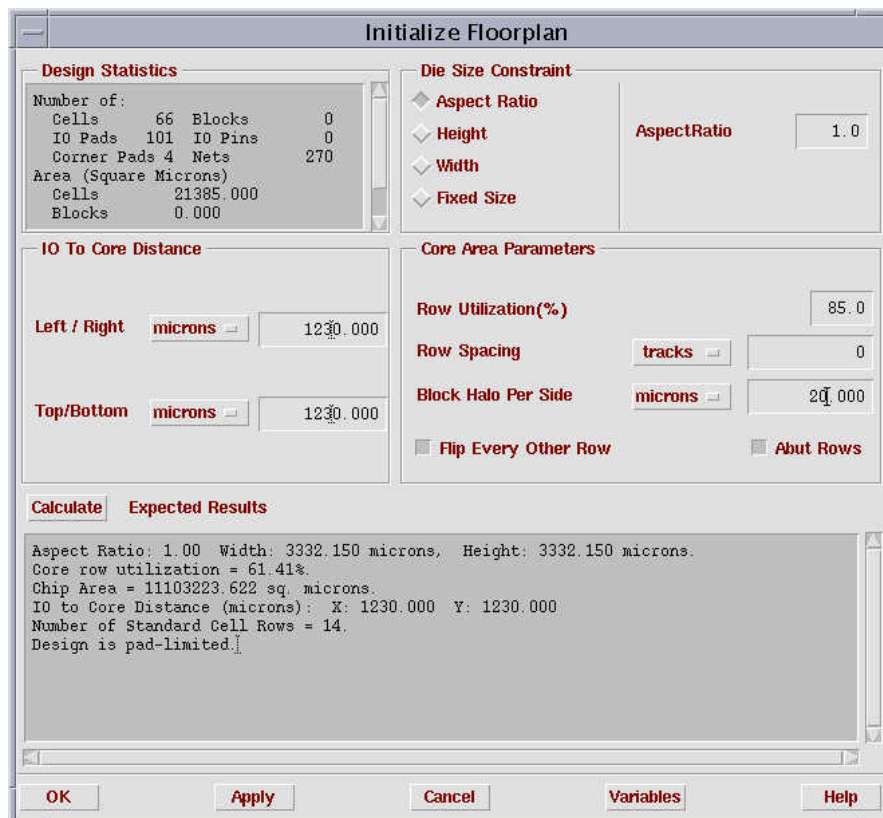

Figure 7-13 Initializing floorplan.
4. Click on **Floorplan**→**Initialize Floorplan** on the SE window, to initialize the floorplan. The **Initialize Floorplan** form appears. Change its settings and click on **Calculate** button. The form will look like figure 7-13.